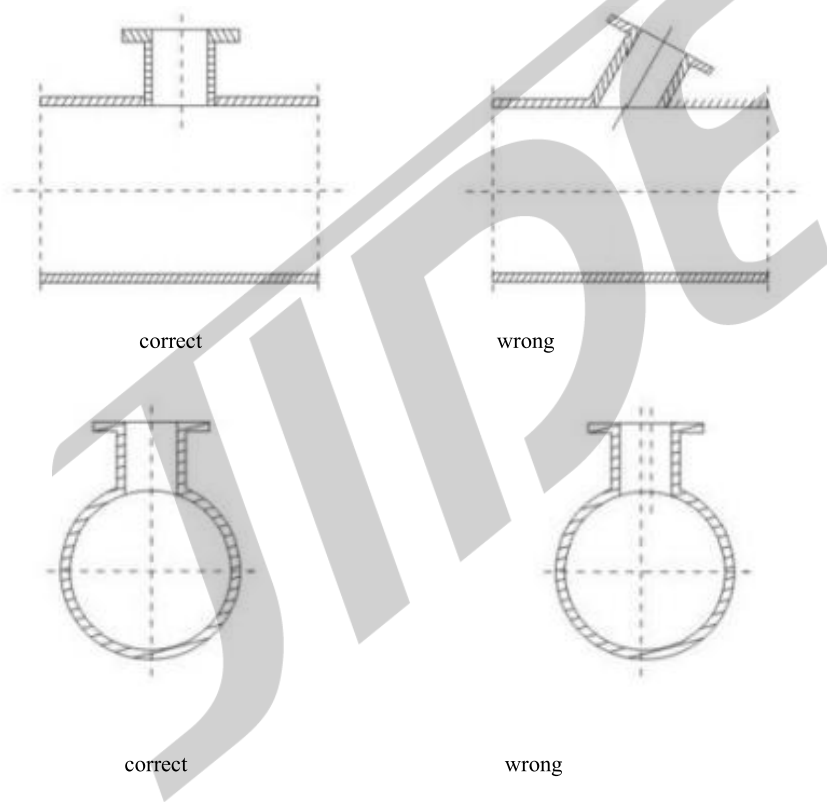

Fig. 4 Flange Position of Plug-in Vortex Flowmeter Installed on Pipeline
4.9.3 The flange short pipe shall be welded at the circular hole of the pipeline. Attention shall be paid to the vertical direction during welding. After welding, the axis shall be orthogonal to the axis of the pipeline, and the extension line of the flange short pipe shall pass through the center of the transverse surface of the pipeline. (See Figure 4)